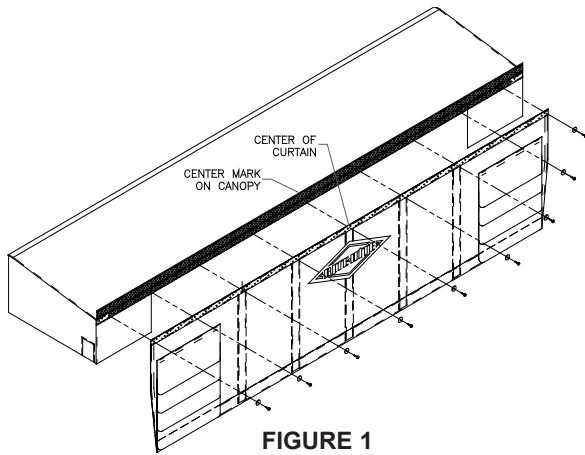

FIGURE 1
2. Using the hook and loop on the curtain face and hook and loop on the front bar, temporarily hang the curtain face from the canopy top cover. Make sure curtain face top edge is aligned with the front bar. There will be slight variations in the hook and loop location on the front bar, so make sure you align the two edges and not the hook and loop(s). Also, make sure that the curtain face is underneath the canopy top cover front flap and that it is centered on the mark made in the previous step. The middle stay on the C4 Style curtain face should align with the mark made in step 1. See Figure 1) (Go to 5162-0004 for gutter installation instructions)